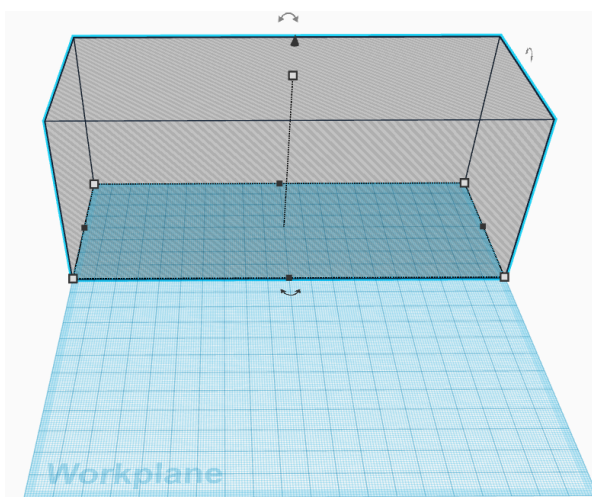

Figure 15.3: Tinkercad Box
12. Now, you should see a box as shown in Figure 15.3.